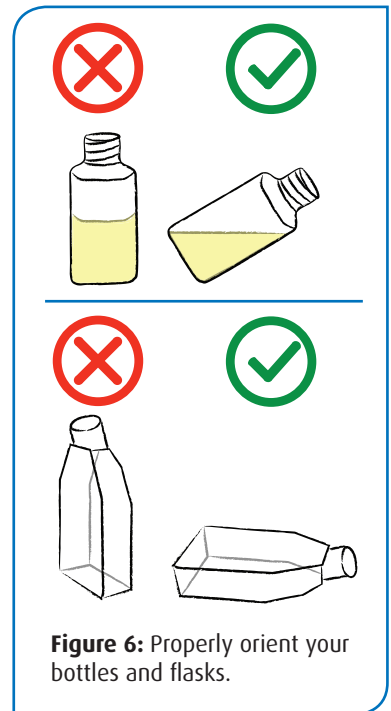

Figure 6: Properly orient your bottles and flasks.
11. Bottles should not be vertical when open, but should be kept at an angle as shallow as possible without risking spillage (Figure 6, top). Do not leave reagent/media bottles open and do not work immediately above an open bottle or flask.
12. Culture flasks should be laid down horizontally when open and held at an angle during manipulations (Figure 6, bottom).